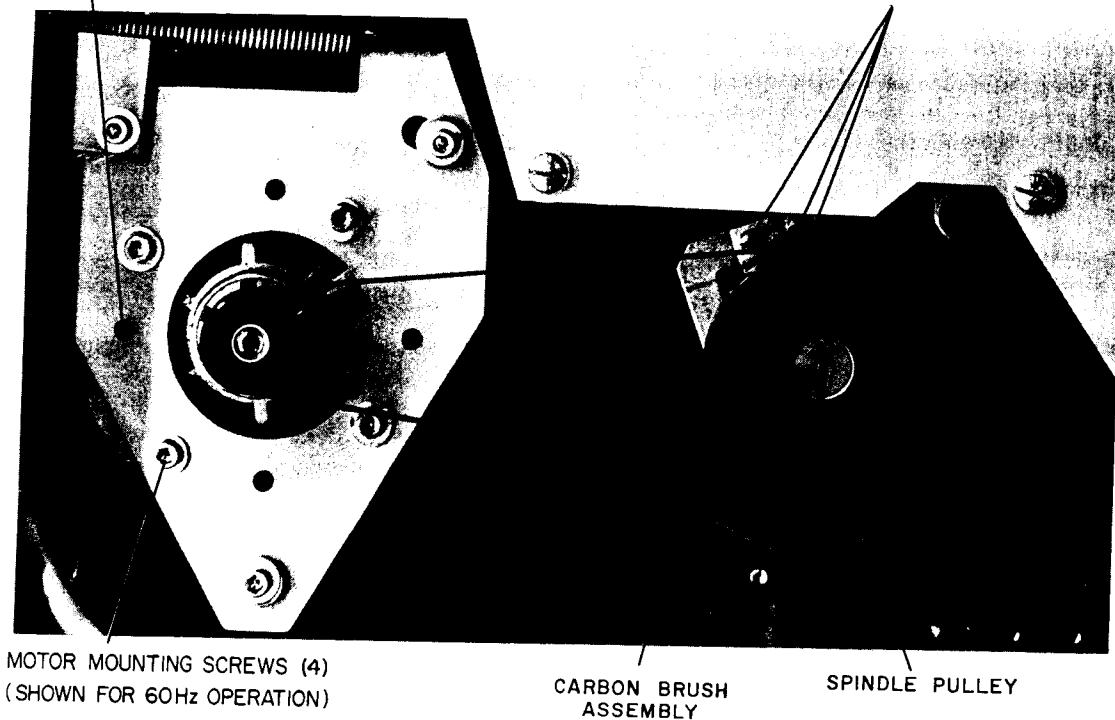

Figure 5-9 Carbon Brush Replacement
3. Remove the bottom covers and remove the two screws that attach the carbon brush assembly to the spindle (Figure 5-9).
The spindle motor mounting plate contains two sets of holes, one for 50-Hz operation, the other for 60-Hz operation. Before performing Step 7, below, note which set of holes is being used, to ensure correct replacement of the motor (Figure 5-9).